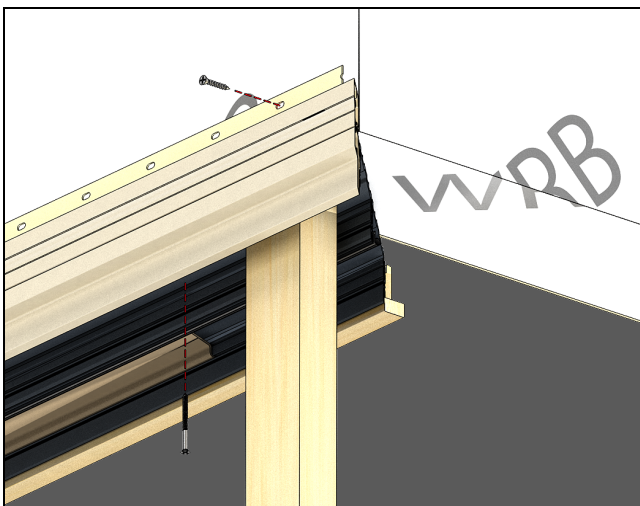

Figure 16
1. Remove the temporary screws holding the first half of the frame into the rough opening. See Figure 16.